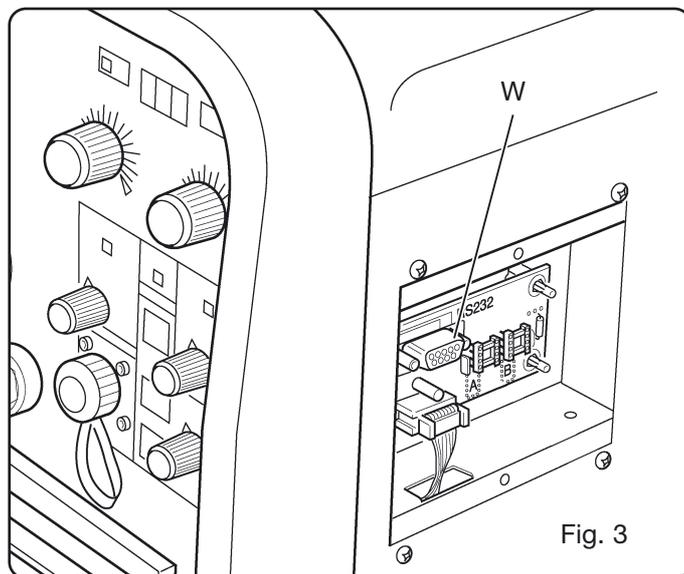

Fig. 3
3.4 CONNECTOR TYPE DB9 (RS 232) (Fig. 3)